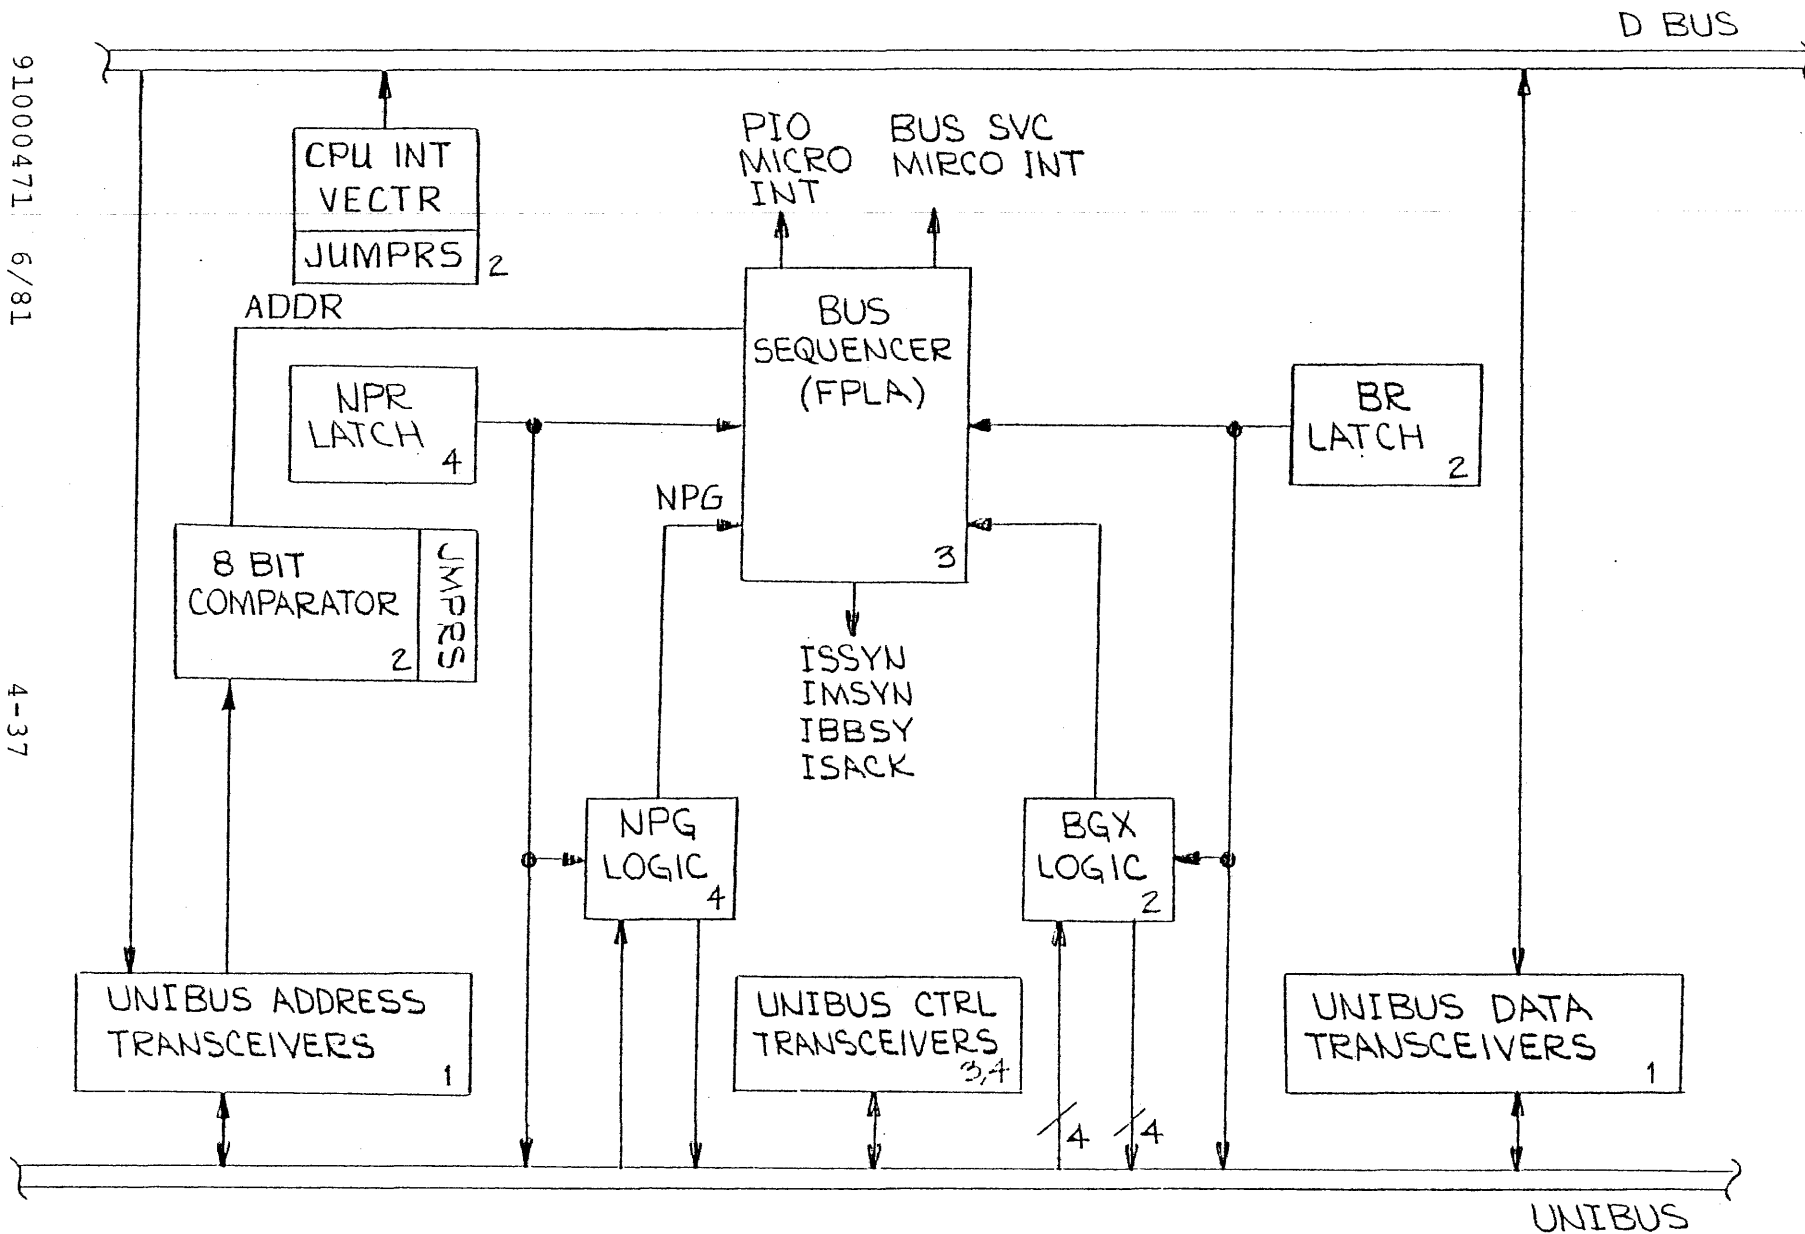

FIGURE 4-19 UNIBUS INTERFACE
4.50 The controller interfaces to the Unibus through a standard SPC SLOT. DEC Unibus compatible 2908 and 8641 transceivers, 8540 receivers and 7438 drivers are used in the bus interface. The controller interface presents one unit load on the Unibus. Refer to Figure 4.19 for a block diagram of the Unibus interface.